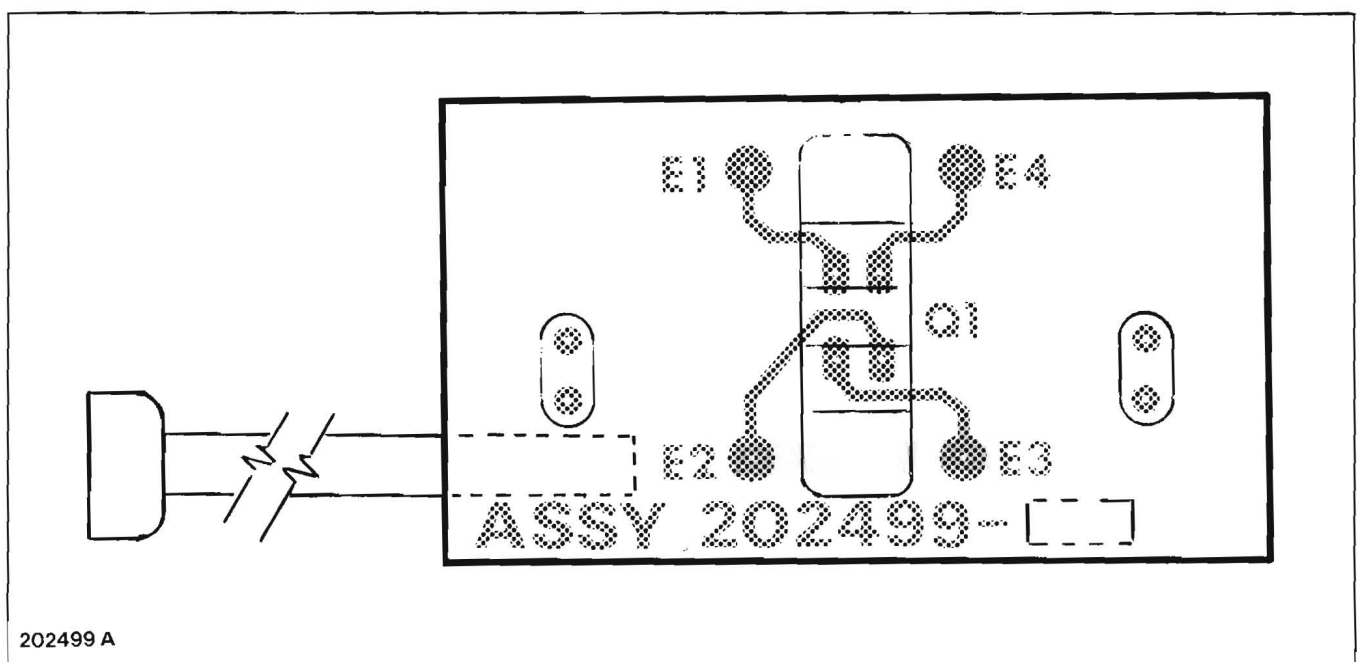

Figure 1. Tension Sensor PWA
1.2 The constant tension feature prevents changes in tape tension against the heads caused by the varying amount of tape on the supply reel or changes in tape speed. The tension sensor PWA, Figure 1, consists of an opto coupler and an optical grating which control the amount of light which reaches the transistor. The optical grating is mechanically connected to the tension sensor dancer arm. As the dancer arm moves in response to changes in tape tension, the tension sensor PWA initiates changes in the holdback voltage applied to the supply reel.